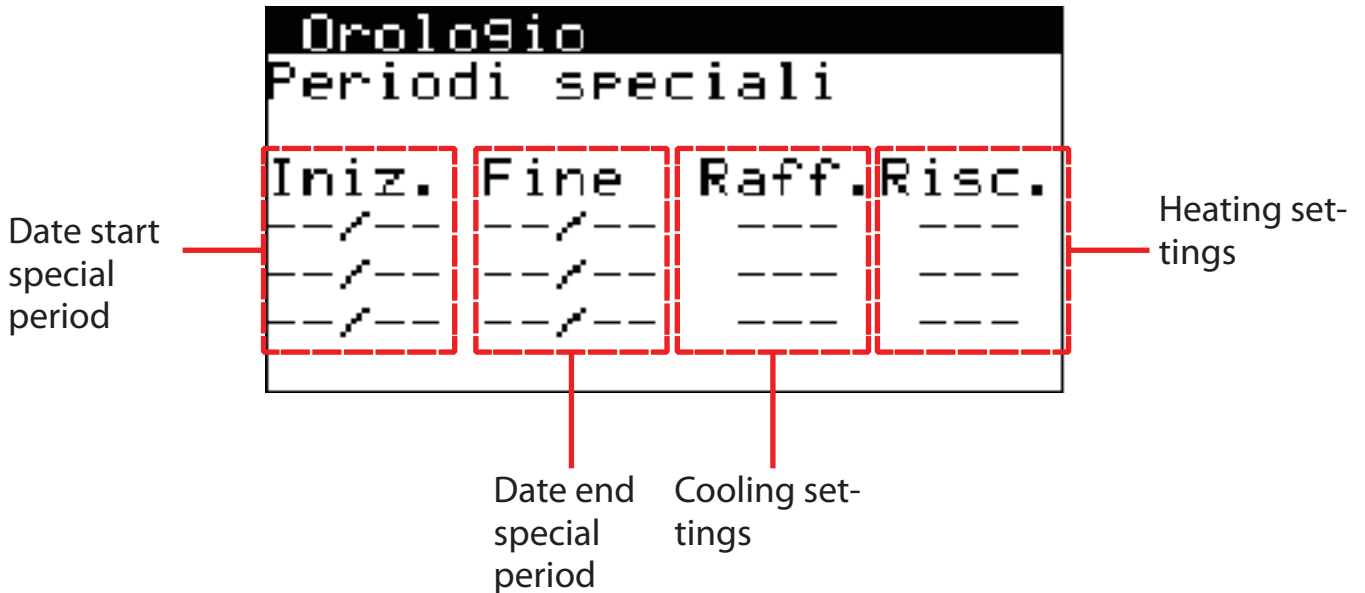

Fig. 11
4. screen of setting of the special periods (Fig. 11)\*